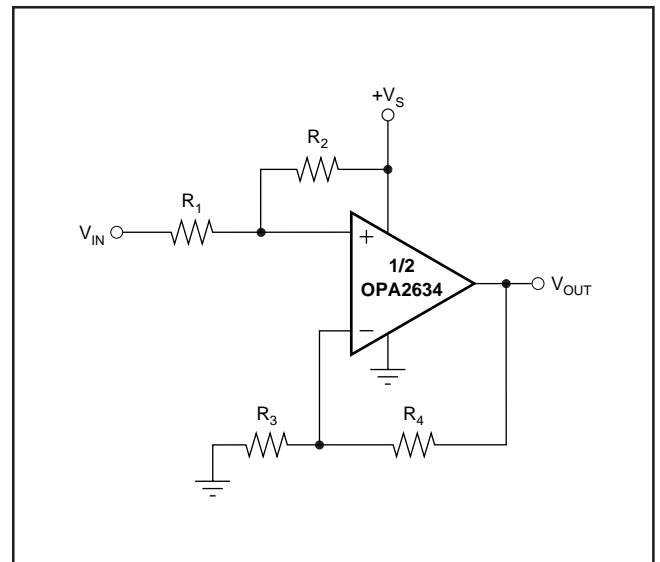

FIGURE 5. DC Level-Shifting Circuit.
Figure 5 shows a DC-coupled, non-inverting amplifier that level-shifts the input up to accommodate the desired output voltage range. Given the desired signal gain (G), and the amount V_{OUT} needs to be shifted up (ΔV_{OUT}) when V_{IN} is at the center of its range, the following equations give the resistor values that produce the best DC offset: